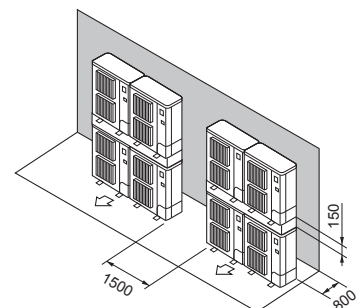

Fig. 5-15
- ⑦ Stacked unit arrangement (Fig. 5-15)